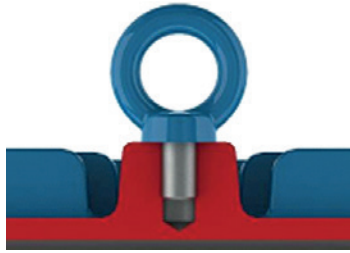
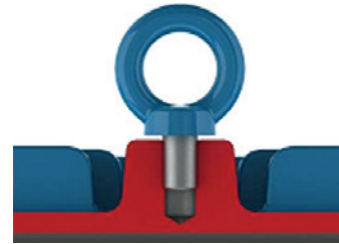

Figure 4 - Correct tightening of the eyebolt
Figure 5 - Incorrect tightening of the eyebolt
Before lifting the motor ensure that all eyebolts are tightened properly and the eyebolt shoulders are in contact with the base to be lifted, as shown in Figure 4. Figure 5 shows an incorrect tightening of the eyebolt.
1. Ensure that the eyebolts are tightened properly, as shown in Figure 4;
1. Ensure that all eyebolts are tightened properly, as shown in Figure 4;